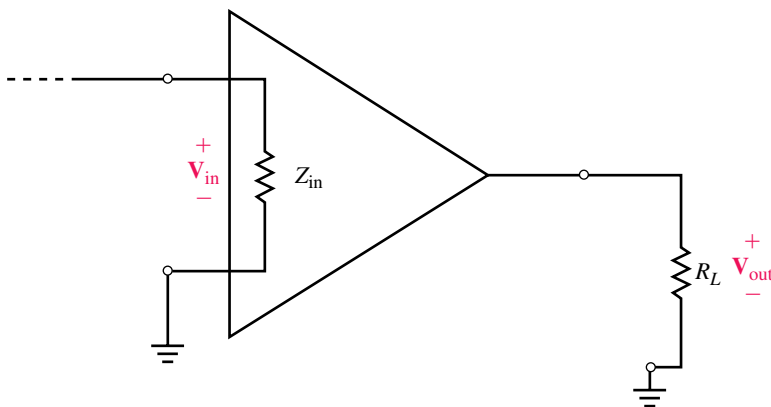

FIGURE 22–43
2. If the amplifier of Figure 22–43 has $Z_{in} = 600\ \Omega$ and $R_L = 2\ \text{k}\Omega$, find P_{in} , P_{out} , and $A_p(\text{dB})$ for the following voltage levels:
3. The amplifier of Figure 22–43 has $Z_{in} = 2\ \text{k}\Omega$ and $R_L = 10\ \Omega$. Find the voltage gain and power gain both as a ratio and in dB for the following conditions: